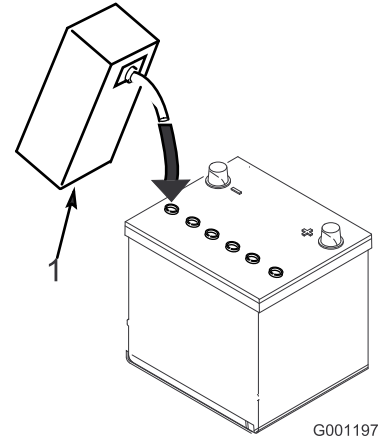

Figure 4
3. Carefully fill each cell with electrolyte until the plates are covered with about 6 mm (1/4 inch) of fluid (Figure 4).
5. Fill the cells as necessary to bring the electrolyte to within about 6 mm (1/4 inch) of the bottom of the fill well (Figure 4).